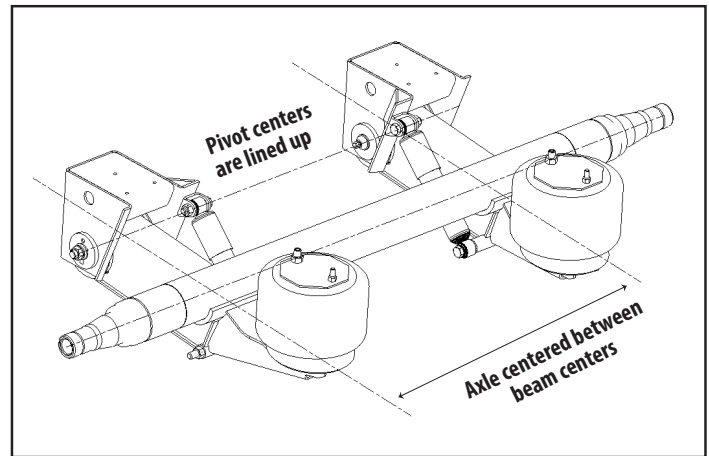

Figure 4. Axle should be centered between beam centers. Beams and axle should be perpendicular. Refer to the engineering drawing for measurements.
1. Center the axle assembly between the beam centers (Figure 4).